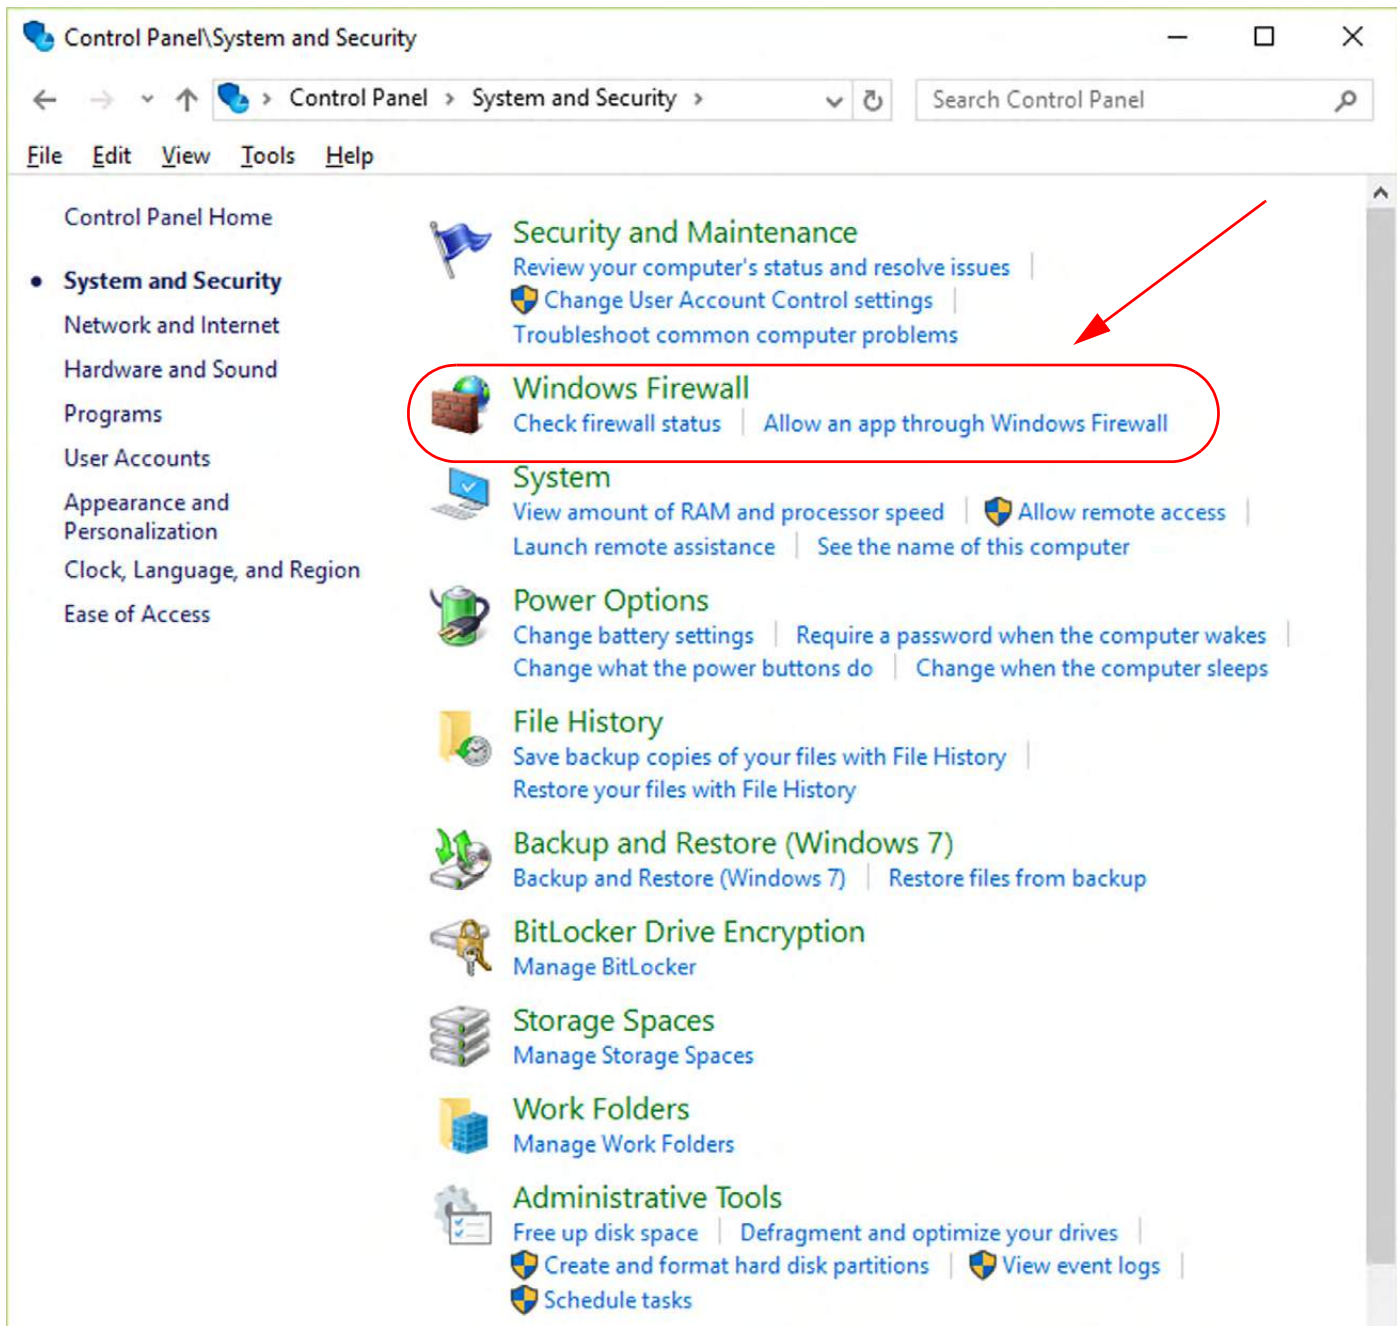

Figure 3.20: Windows 10: Allow an App Through Windows Firewall
3. From the Control Panel -> System and Security Screen, select "Allow an App through Windows Firewall". See Figure 3.20.